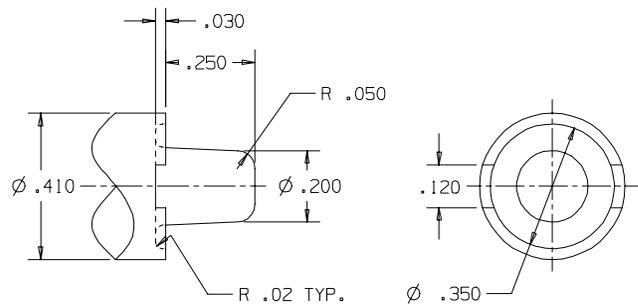

Figure 13
- Using an Inlet Bushing Screen Installation Tool, install the Inlet Bushing Screen (20A), screened end first, in the bottom (hex end) of the Inlet Bushing (20). Insert the rounded end of the tool in the cone formed by the screen and tap the end of the tool to secure the rim of the screen in the Bushing. Refer to Figure 13.